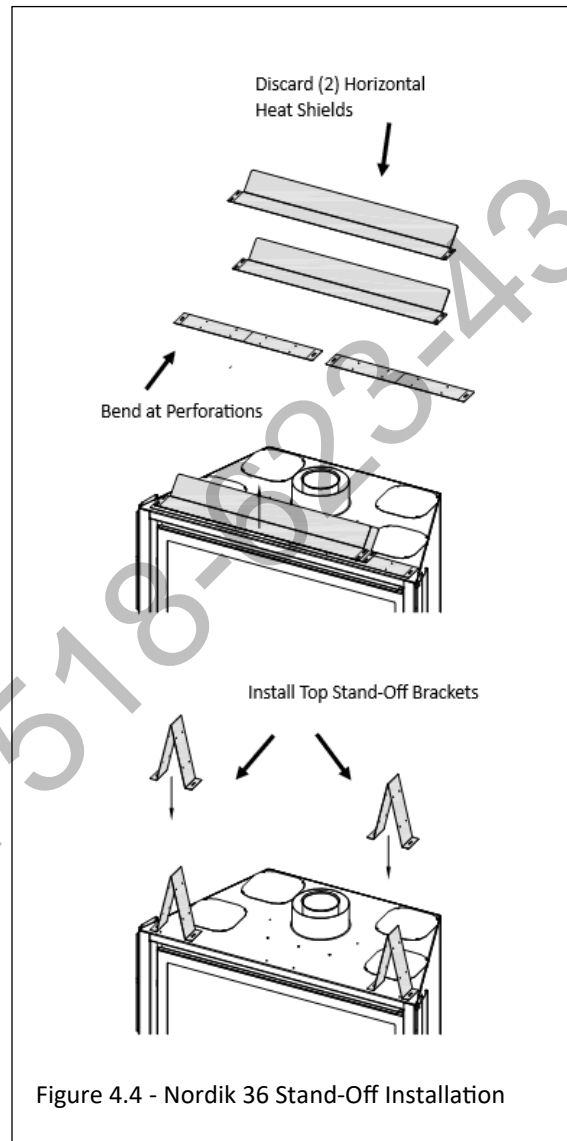

Figure 4.4 - Nordik 36 Stand-Off Installation
7. Install stand-off assembly on top of the appliance. See Figure 4.4. Remove and save (4) screws securing stand-off heat shields and stand-off brackets on top of the fireplace. Form each top stand-off bracket by bending at perforations, as shown. Align the holes in the formed top stand-offs with the holes in the fireplace top. Secure with the (4) screws previously removed along with (4) screws located on top of the fireplace.
8. Discard the (2) horizontal heat shields.